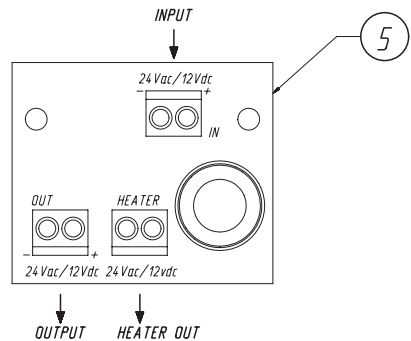

Fig. 3
- At this point it is possible to fix the fan plus thermostat wiring (1), that has just been fastened (Fig.2), to the terminal on the support circuit (5) present on the back plate of the housing (Fig.3).